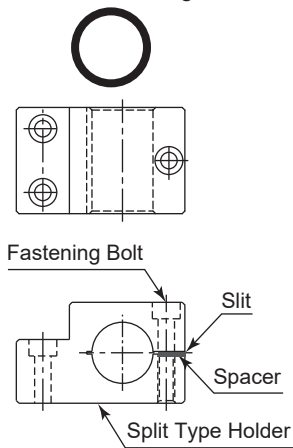
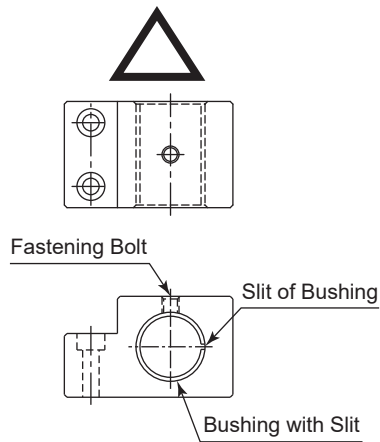
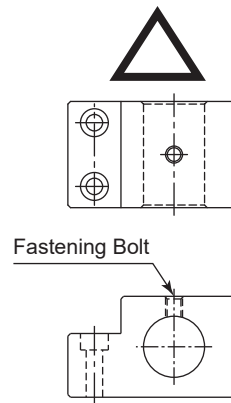
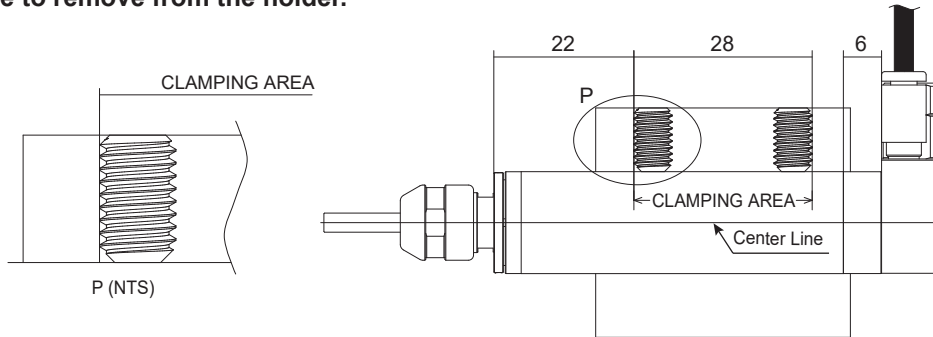

Fig. 20
Fig. 21
Fig. 22
Fig. 24
- ② When mounting the motor spindle into a holder, the method shown in Fig. 20 is recommended. For manufacturing instructions, refer to "③ How to fabricate the split type holder". If the method in Fig. 20 cannot be used, mount it using the method in Fig. 21 or Fig. 22. When using the method in Fig. 22, refer to Fig. 24.